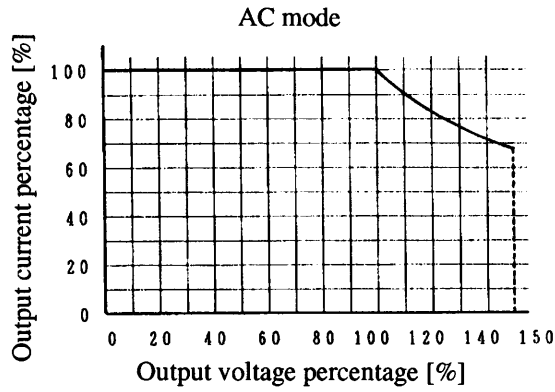

Fig. 1
When output phase voltage is 100 to 150 V/200 to 300 V (in AC mode) or 100 to 212 V/200 to 424 V (in DC mode), the output current is reduced by the output voltage. Figs. 1 and 2
- The output current percentage in Fig. 1 and Fig. 3 takes priority the smaller of the two Figs. (This applies only in the AC mode.)